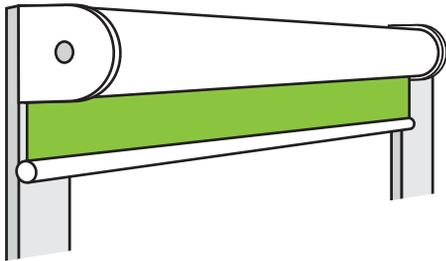

fig:1
- When ordering please pay special attention to the **Back Colour** as specified in the fabric description. As a number of blockout fabrics have a white, off white or cream coating on the back (**to maximise light and heat reflection**) the back coating colour will be noticeable on the top roll of the blind (**refer fig:1**). If this not acceptable to your situation, please consider ordering your blind as an Over Roll (Front Roll) (**refer fig:2**) **not available for Bonded Rollers**